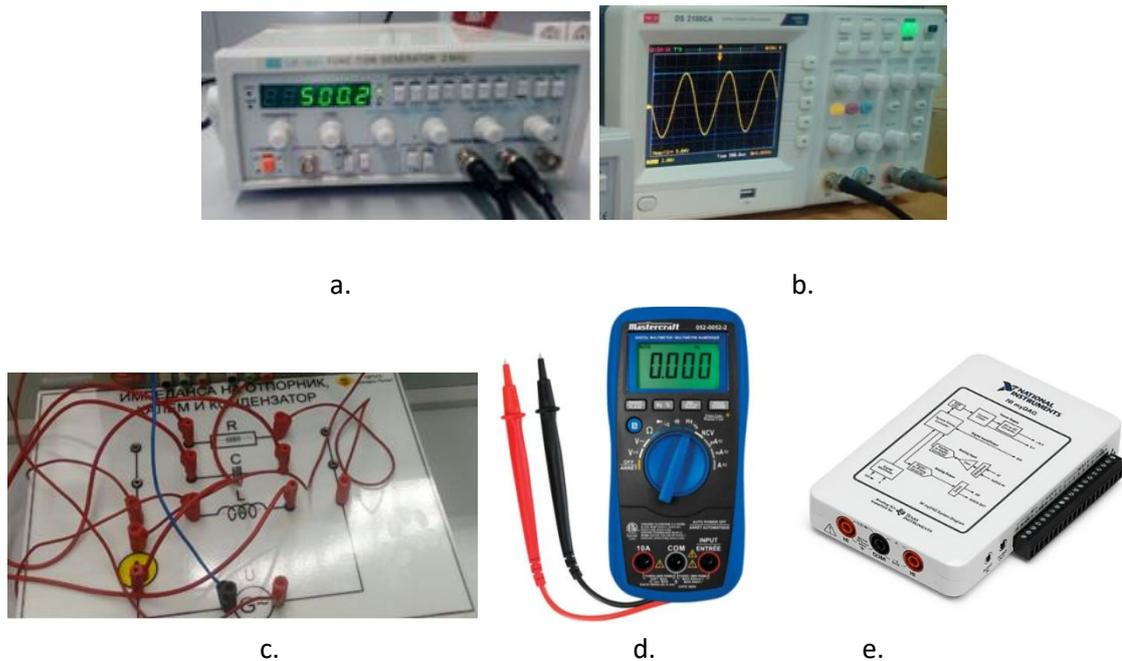

Figure 5.2 Hardware for impedance measurement
- Function generator (figure 5.2 a)
- Oscilloscope (figure 5.2 b)
- Experimental board (Figure 5.2 s) with following elements:
- Digital multi-meter- AC Voltage (figure 5.2 d)
- Data Acquisition Card NI-myDAQ (figure 5.2 e)